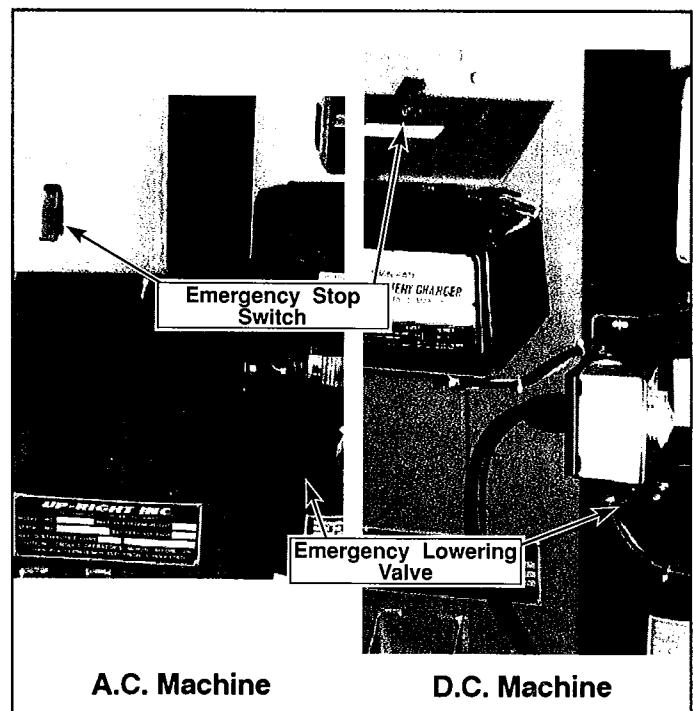

Figure 3: Base Controls
2. Be sure the unit has been properly set up with all four (4) outriggers properly positioned and the base leveled.
5. Turn ON Lower Emergency Stop Switch located on the left side of the mast (Figure 3). Open switch guard and push switch toward guard. In the event of an emergency, push the switch guard to stop the unit.
Ask a person on the ground to open the Emergency Lowering Valve to lower the platform. This valve is located on the Power Unit on the left side of the mast (Figure 3).